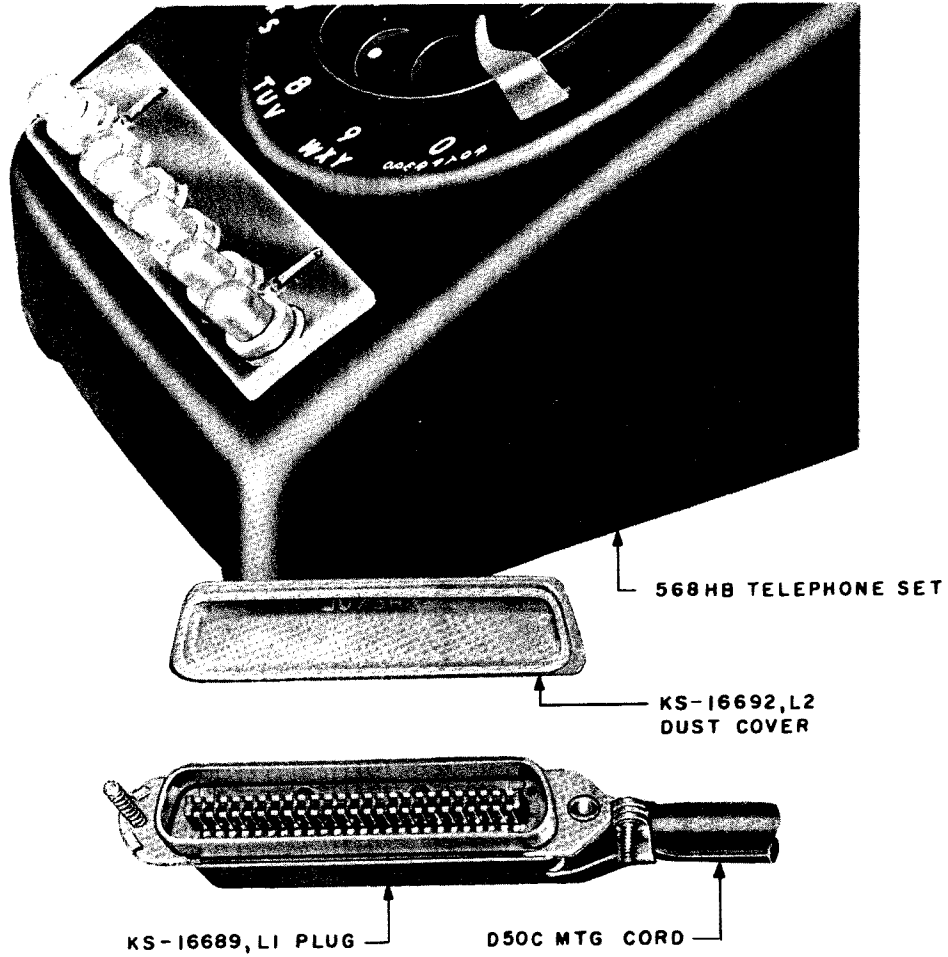

Fig. 6 - 568HB Telephone Set With Plug-Ended Cord
2.10 Fig. 6 shows a 568HB telephone set and mounting cord equipped with a multicontact plug.